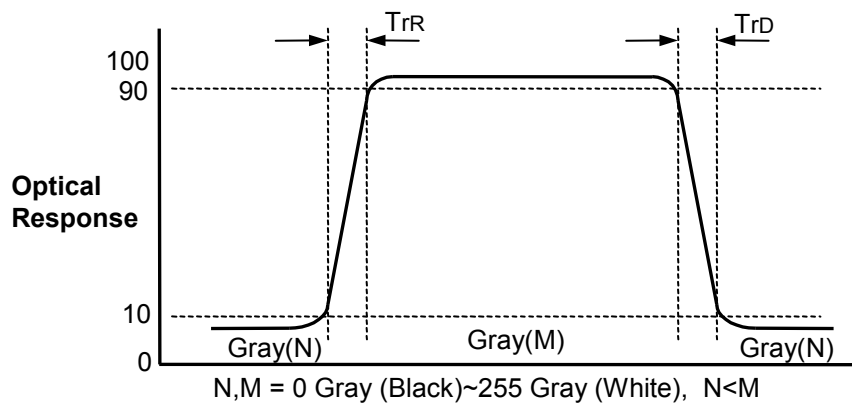

FIG.3 Response Time
4. Response time is the time required for the display to transit from G(N) to G(M) (Rise Time,  $Tr_R$ ) and from G(M) to G(N) (Decay Time,  $Tr_D$ ). For additional information see the FIG. 3. (N<M)